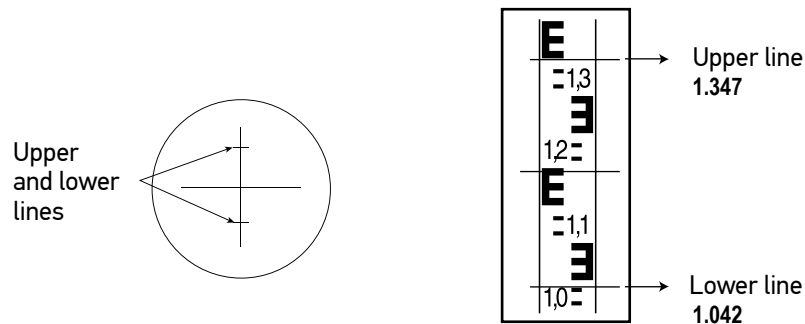

Figure 5
- Focus the device on the leveling rod. Record the values of the upper and lower lines of the measuring crosshairs (Fig. 5).
The distance between the device and the rod in Figure 5 is 30.5m.